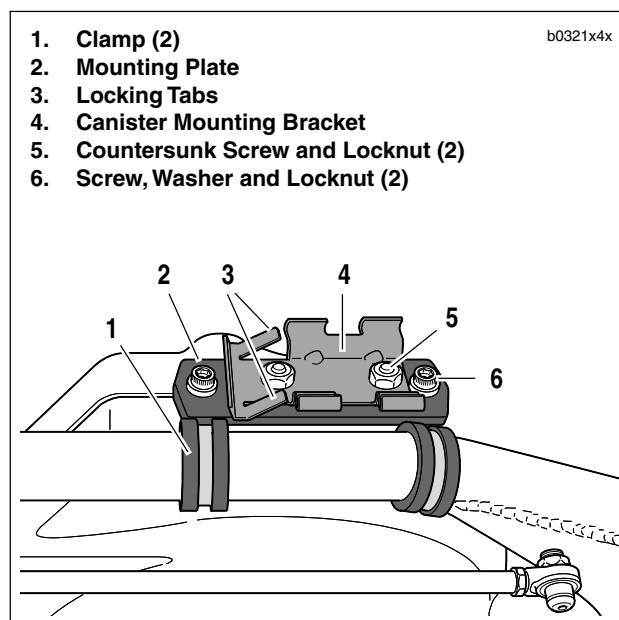

Figure 4-38. Carbon Canister Mounting
3. See Figure 4-38. Depress both locking tabs (3) on the canister mounting bracket (4). Slide canister towards the front wheel until it disengages from the mounting bracket and remove.
4. Remove screws, washers and locknuts (6) to detach mounting plate (2) from clamps (1).
5. Remove countersunk screws and locknuts (5) to separate bracket (4) from mounting plate (2).
1. See Figure 4-38. Install canister mounting bracket (4) on mounting plate (2) with countersunk screws and locknuts (5).
2. Install mounting plate assembly on frame by attaching mounting clamps (1) using screws, washers and locknuts (6). Tighten to 6-8 ft-lbs (8-11 Nm).